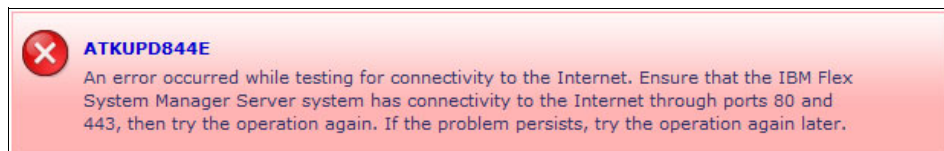

Figure 7-78 Unsuccessful Internet test access error message
5. The Connection page allows the setup and testing of access to the Internet. When the configuration process is complete, click **Test Internet Connection**. An unsuccessful test results in a message that is shown in Figure 7-78.